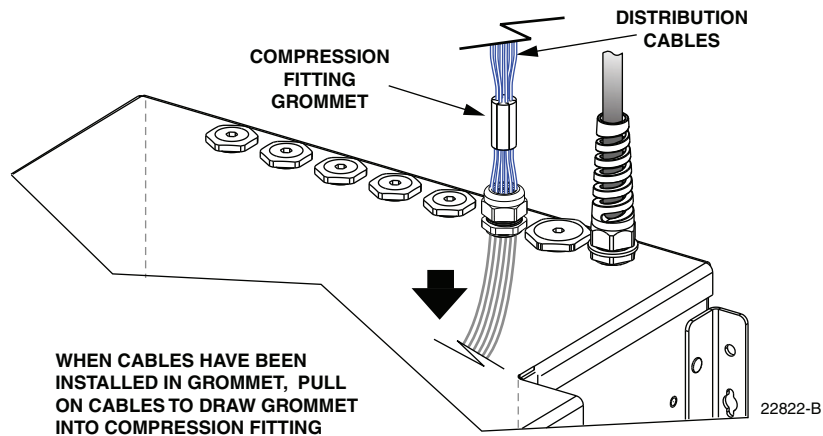

Figure 50. Install Distribution Cables in Grommet
8. Install each distribution cable in the compression fitting grommet as shown in Figure 50.